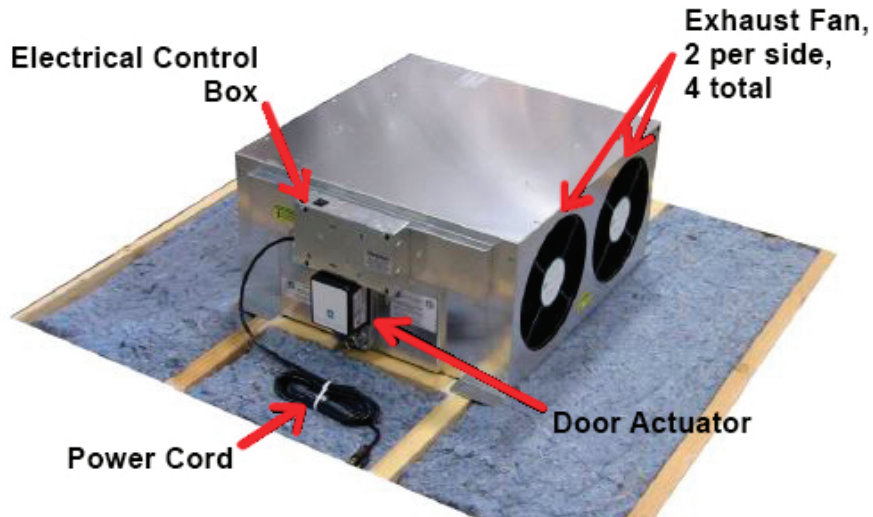
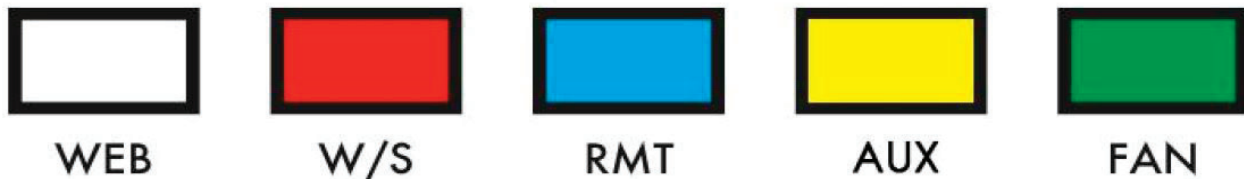

Figure 2: VentCool 1.7 on joists
Figure 3: Electrical Control Box Port Labeling
Figure 2 below shows the 1.7 unit sitting on top of 24"x16" joists. The joists are 16" apart on-center and have a total distance between them of 14½".
**Wall Switch Installation:** Refer to Figure 2 for electrical control box location and Figure 3 for Electrical Control Box Port Labeling.